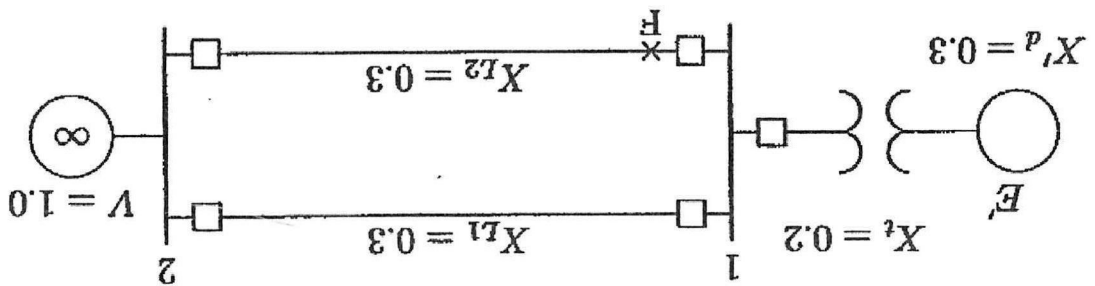

Figure Q1(b)
- (b) A 60-Hz synchronous generator having inertia constant $H = 5$ MJ/MVA and a direct axis transient reactance of $x_d' = 0.3$ per unit is connected to an infinite bus through a purely reactive circuit as shown in **Figure Q1(b)**. Reactances are marked on the diagram on a common system base. The generator is delivering real power $P_e = 0.8$ per unit and $Q = 0.074$ per unit to the infinite bus at a voltage of $V = 1$ per unit.